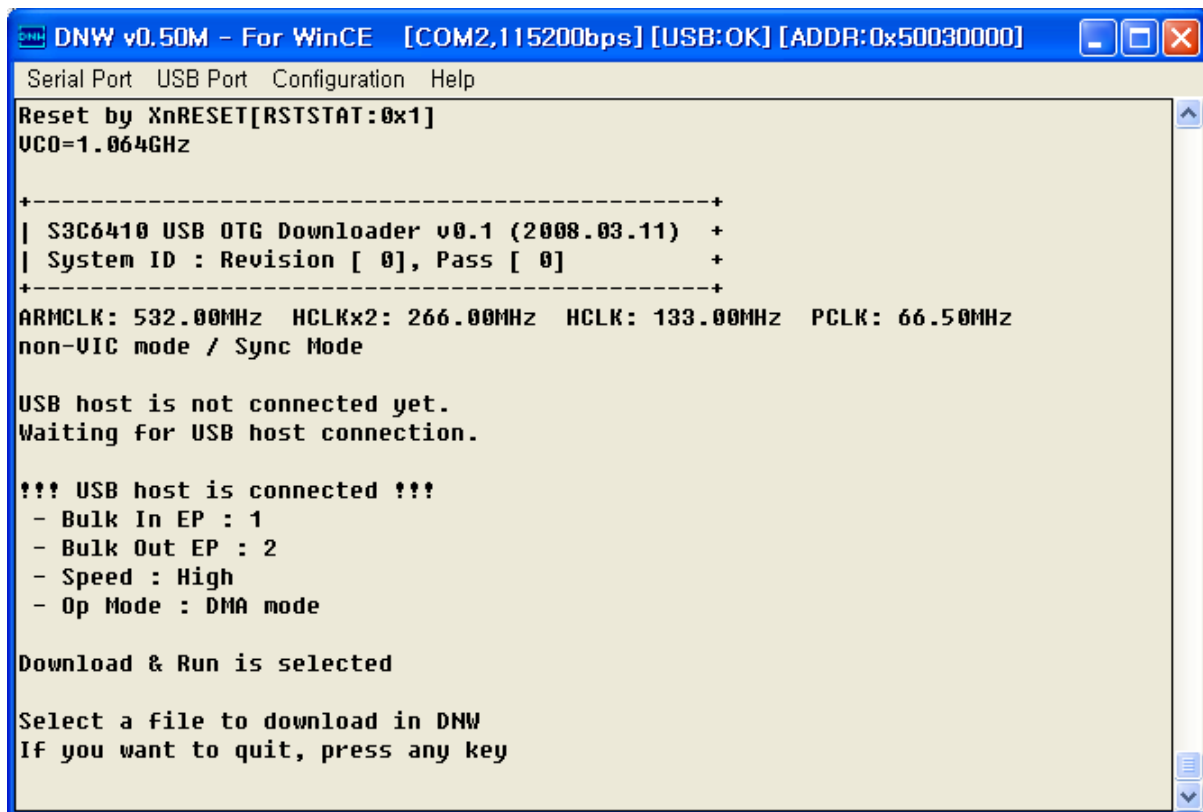

Figure 6-13 DNW Window after reset
16. Reset the board. DNW window appears as shown in figure 6-13.